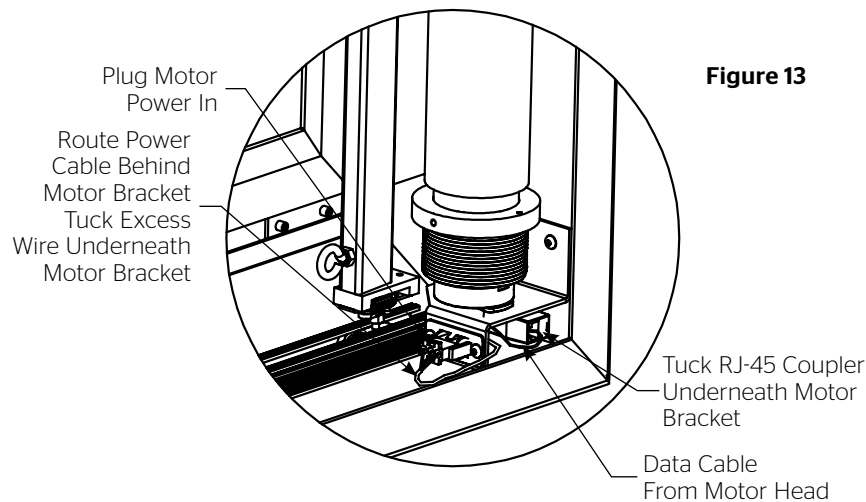

Figure 13
10. Route the two cable assemblies around motor bracket and plug the 3 wire male connector into the 3 wire female connector on the motor bracket. The motor will have a gray data cable with an RJ-45 connector on the end coming out of the head of the motor. Plug this end into the RJ-45 coupler. Tuck the RJ-45 coupler underneath motor bracket securely to prevent entanglement as shown in Figure 13.